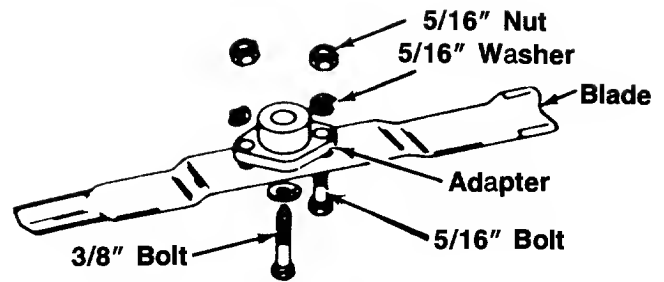

FIGURE 27.
1. Remove the large bolt and lock washer which holds the blade and adapter to the blade spindle. See figure 27.
3. If the blade or blade adapter needs replacing, remove the two small bolts, lock washers and nuts which hold the blade to the adapter. See figure 27.